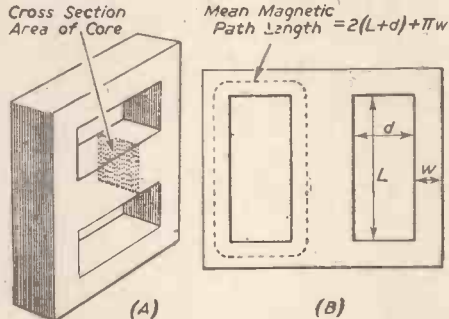

Fig. 4.—(A) Shows cross-section area of core and (B) the mean magnetic path length.
Where A = Cross section area of core as indicated by the shaded portion Fig. 4(A).
To find the total watts lost in the core it is necessary first to calculate the weight of the core. This is done by first of all calculating the volume (V) of the material as given by the cross section area of core multiplied by the mean magnetic path length, that is the mean path length round one window of the lamination as shown in Fig. 4(B). The weight for silicon iron is now: